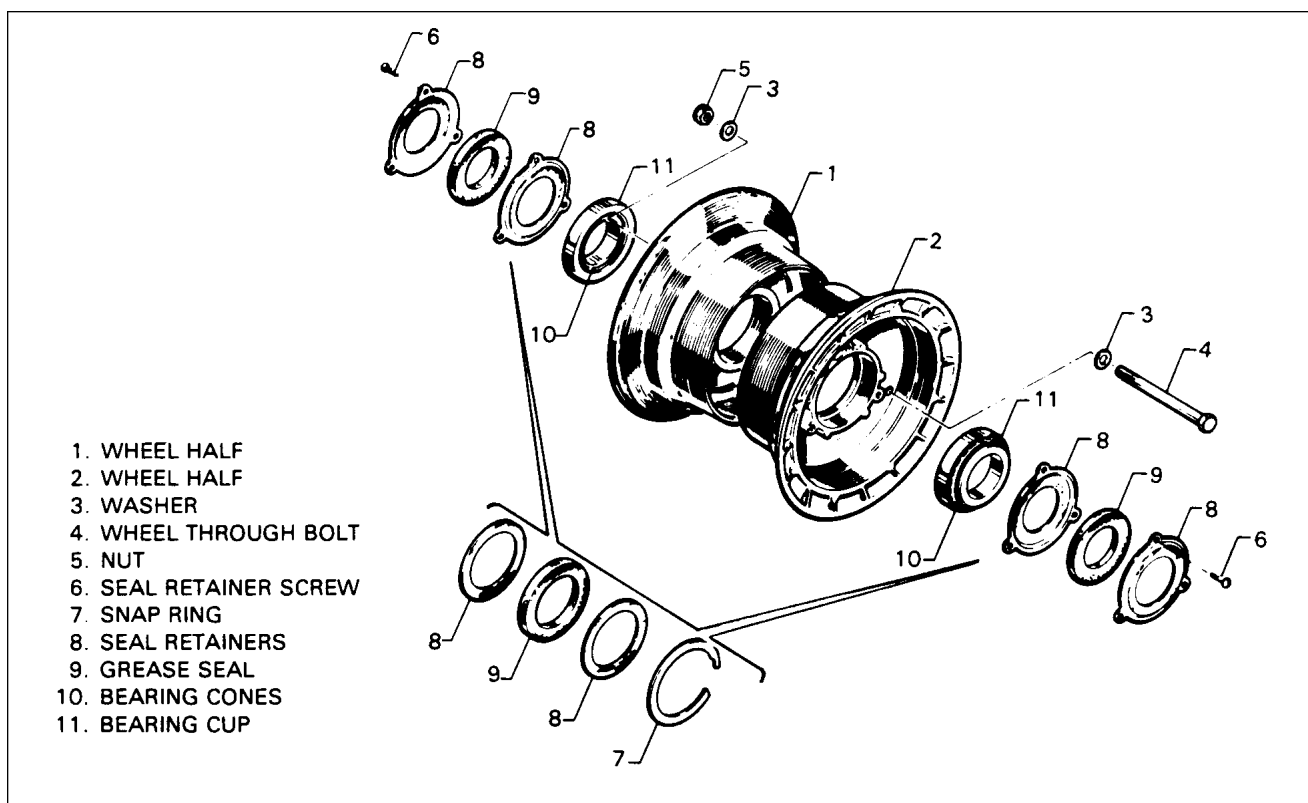

Figure 32-10. Nose Wheel Assembly
D. REMOVAL AND DISASSEMBLY OF NOSE WHEEL (Refer to Figure 32-10.)
F. ASSEMBLY AND INSTALLATION OF NOSE WHEEL (Refer to Figure 32-10.)